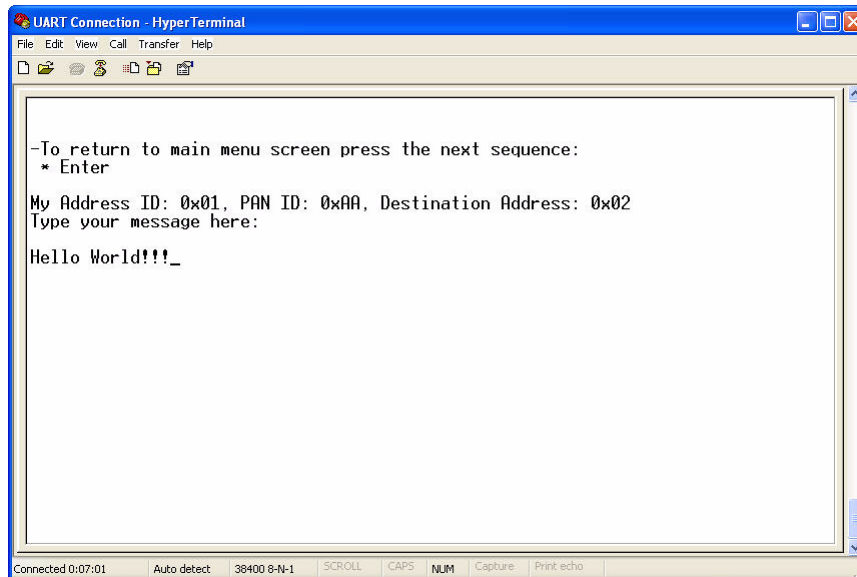
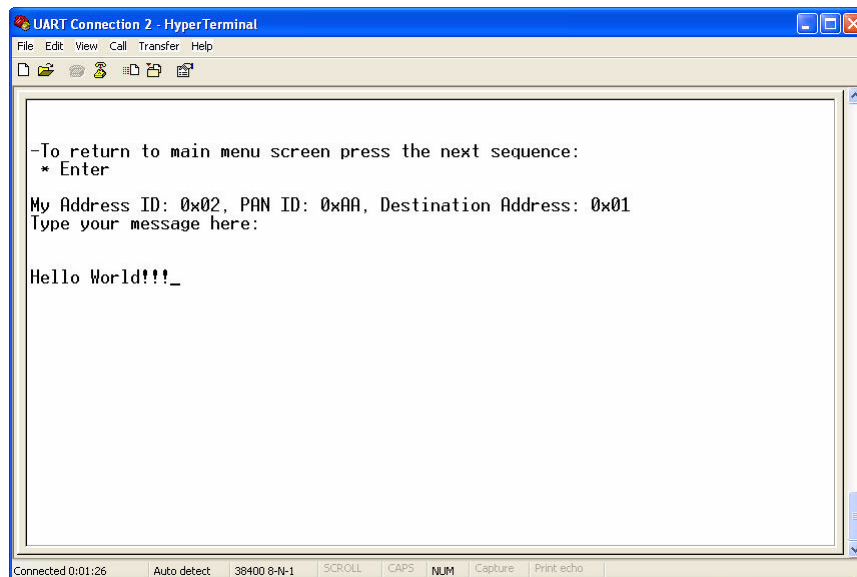

Figure 2-7. Wireless UART Board 1 (Output to Board 2)
Figure 2-8. Wireless UART Board 2 (Input from Board 1)
6. Once both boards are reset, connectivity is established and a valid My Address ID, PAN ID or Destination ID have been entered, type some characters in the HyperTerminal Session (Board 1) window (Figure 2-7) and the typed message appears on the other PC's HyperTerminal Session (Board 2) window (Figure 2-8).